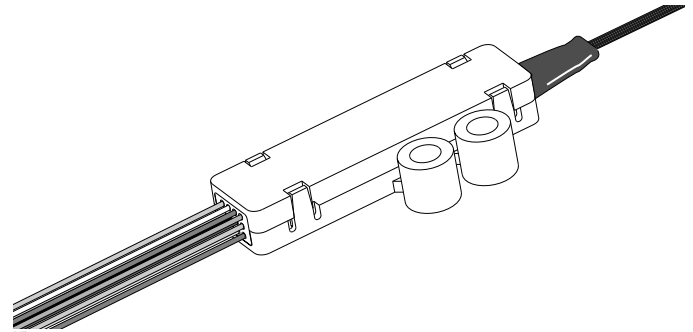

Figure 1
**1.1** This procedure describes the Corning Cable Systems 12-fiber ("12 f") Ribbon Fan-out used on Corning Cable Systems 12-fiber ribbon cable, AT&T Accu-Ribbon cable, and single-ribbon stubs (Figure 1). The 12-f Ribbon Fan-out branches the fibers in a ribbon cable into individual fibers protected by color-coded, 900 µm protective tubing. The fibers can then be connectorized per hardware interface requirements.